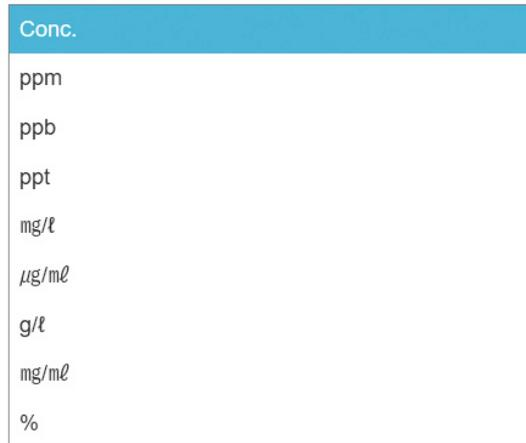

Fig. 4.8
2. [Fig. 4.8] Select a unit to use.